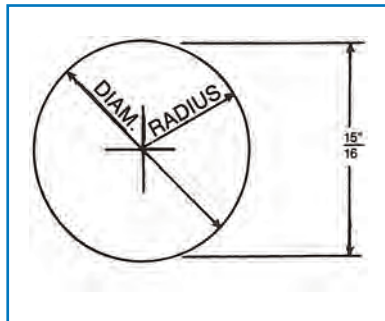

Fig. 10. Steel disc
**Fig. 10** shows a steel disc whose *diameter* is  $\frac{15}{16}$ ". To scribe this disc on a steel plate, you must first compute the
*radius* of the disc. This will be one-half the diameter. A quick way to divide the  $15/16''$  diameter in half is to double the denominator (16) and put the existing numerator (15) over the new denominator. Thus: One-half of  $15/16''$  diameter =  $15/32''$  radius.